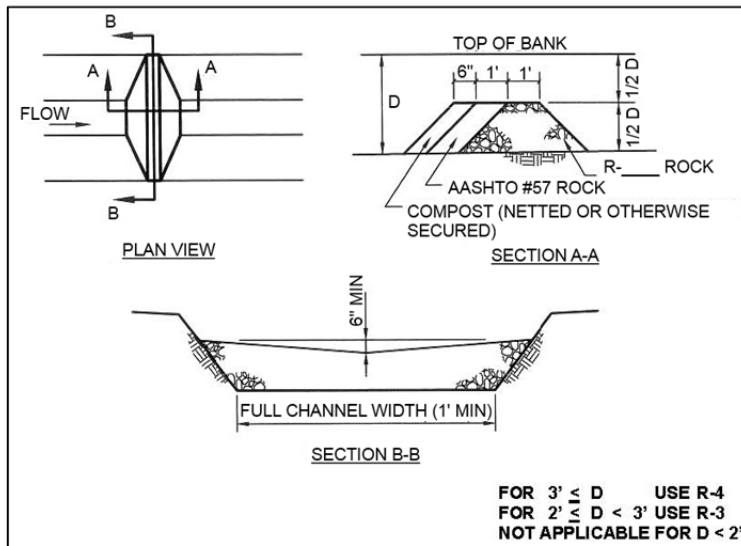

Figure 43: Rock Filter
- To construct a rock filter (**Figure 43**) determine the required length for the ditch or depression. Place rock evenly, with minimum of voids. See **Table 19** for size of rock.